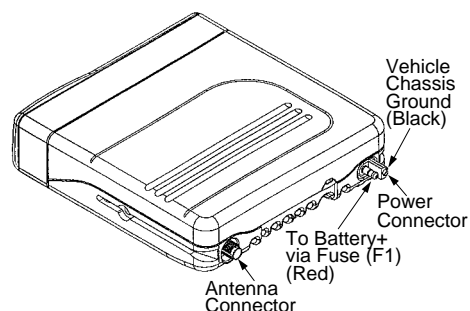

Figure 13 Low and Mid Power Radios. Connections to Radio Rear
6. To complete your radio installation, plug the power cable into the radio power connector (See Figure 13).
8. Connect the antenna cable connector to the radio antenna connector on the rear of the radio (See Figure 13). Ensure that the antenna's cable connector is fully tightened. An adaptor should NOT be used between the antenna cable connector and the radio.